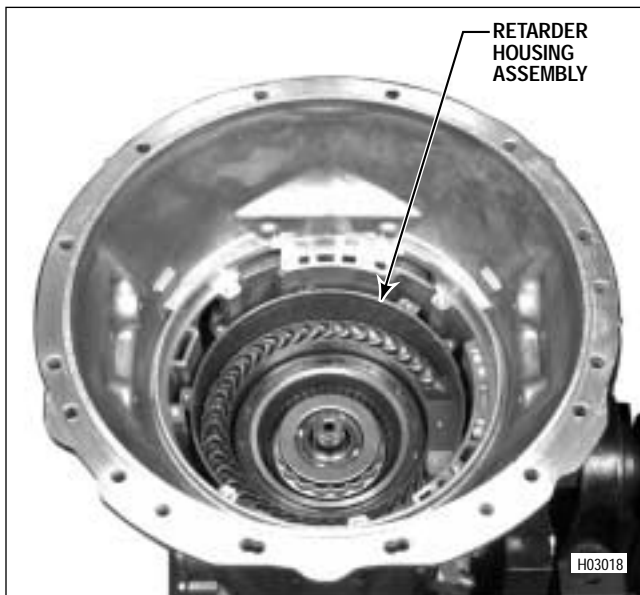

Figure 5-14. Removing Retarder Housing Assembly (Models With Retarder)
(4) Remove the retarder housing assembly (Figure 5-14). Refer to Paragraph 6-10 for rebuild.